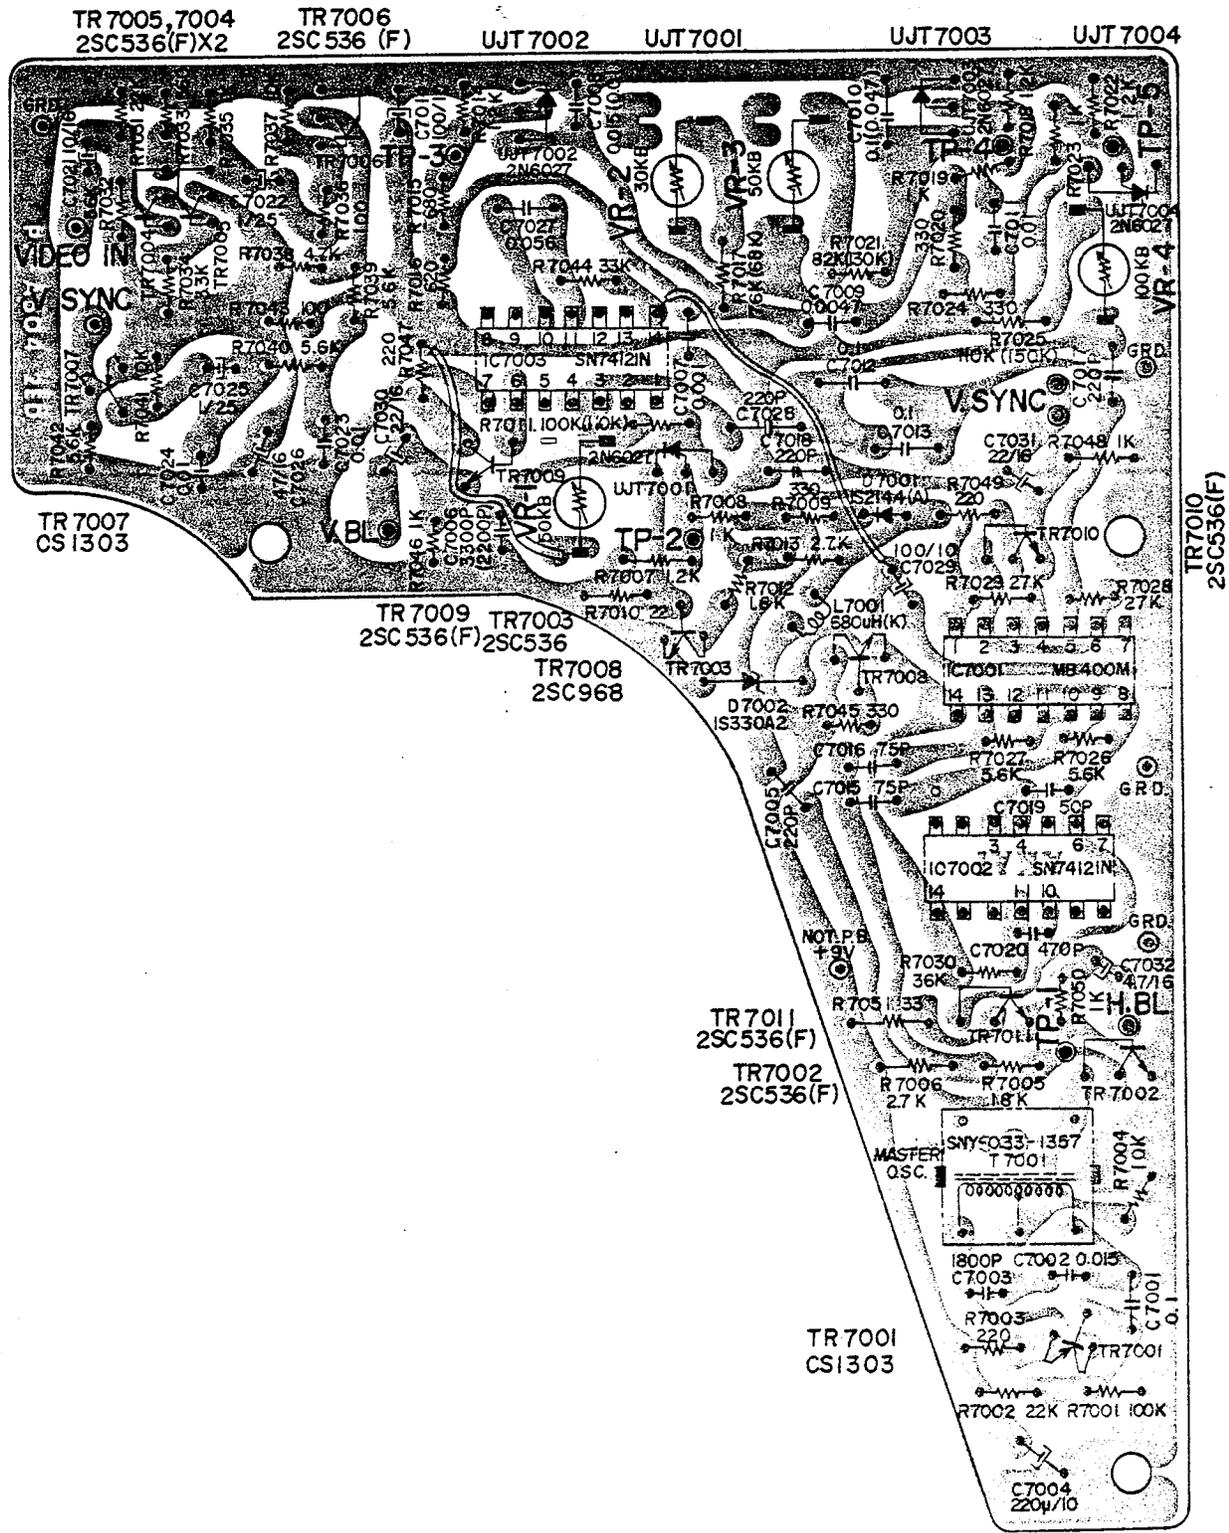

Fig. 1 S.S.G. P.C. Board (PX-A504)
- (a) Connect a High Sensitivity D.C. Voltmeter or a V.T.V.M. (must be calibrated) between the +12 V Terminal of PX-513 and the chassis and confirm that the meter indication is within a  $12\text{ V} \pm 0.2\text{ V}$  range. (Refer to Figs. 1 and 2).
When making S.S.G. P.C. Board Adjustments, solder Test Pin to Test Point (Refer to Fig. 1).